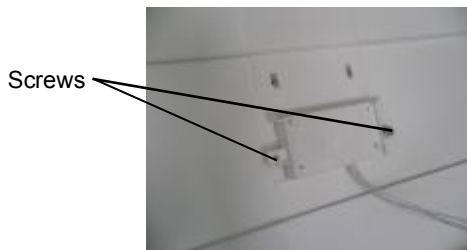

Fig 10
2..After taking down the front panel, release the screws of the display PCB Holder. (Fig 10)